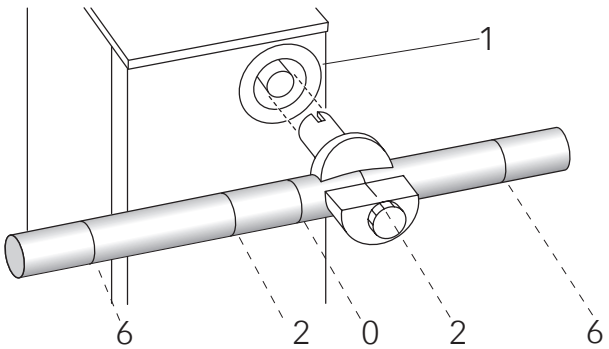

Fig. 3: Check weight
One of the marks on the weight corresponding to drum position 2 is set precisely on the index mark of the weight holder. Holder and weight are then fitted over the axis of the tonometer (1) so that the longer part of the weight points towards the examiner (Fig. 3).
Turn the weight bar to scale calibration 6, the longer part shows in the direction of the examiner (Fig. 3).